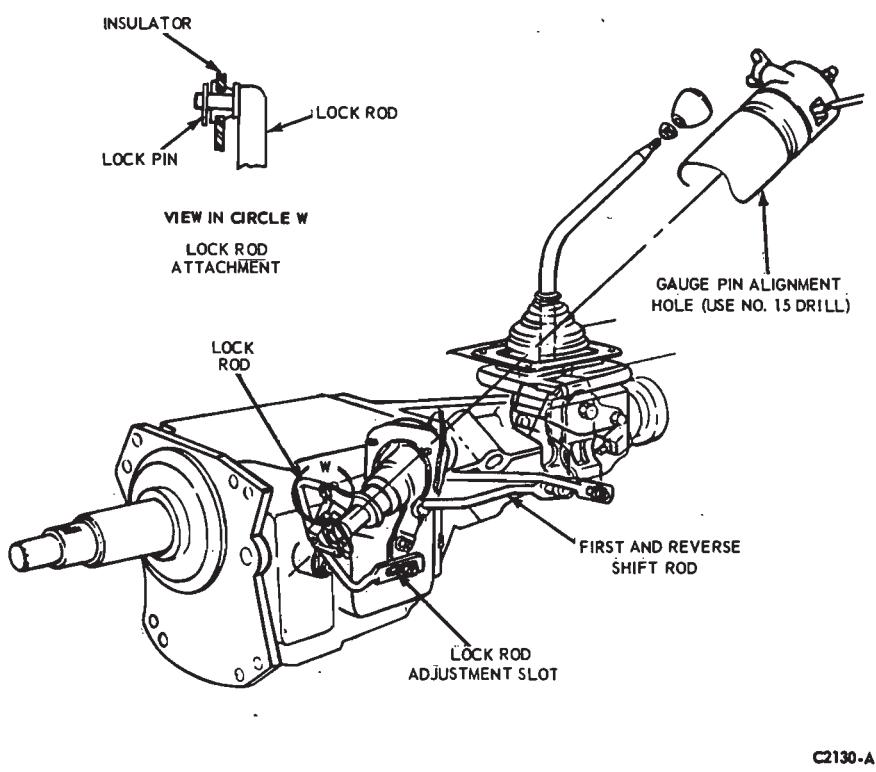

FIG. 3—Three Speed Floor Shift Lock Rod Installation
New shift rails provide a shorter shift travel. Floor shift models have a new design reverse lever. This permits use of an additional control rod for locking the transmission in reverse through the steering column (Fig. 3). With the shorter shift travel, the shift levers at the side of the transmission have been redesigned to maintain acceptable shift efforts.
2. Align the hole in the steering column socket casting with the column alignment mark and insert a .180 diameter (No. 15) drill (rod). The column casting must not rotate with the drill (rod) in position (Fig. 3).